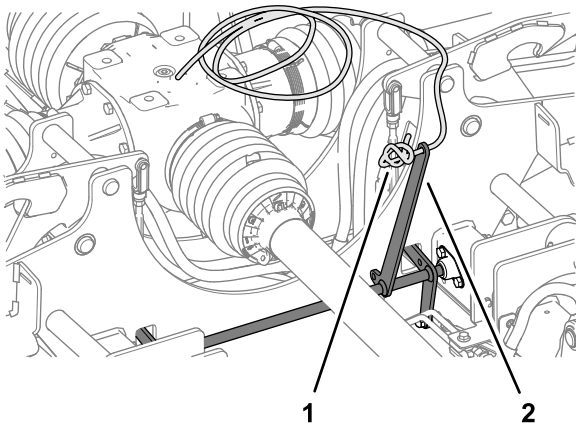

Figure 11
1. Thread the end of the deck-lock rope through the hole in the lock lever and tie the rope securely (Figure 11).